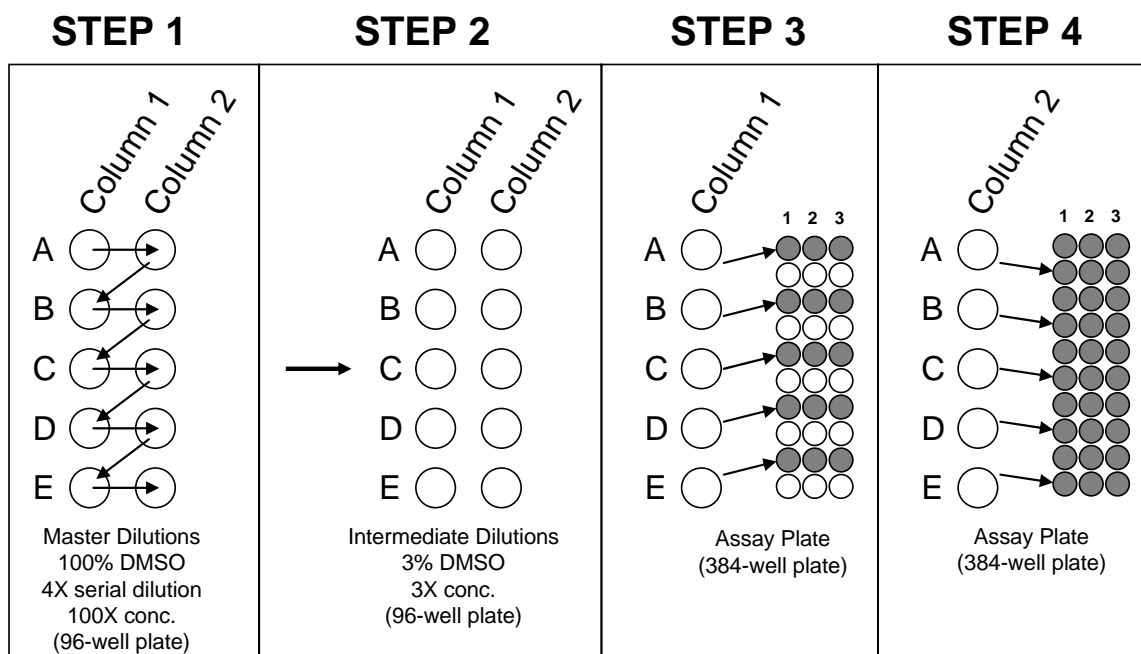

Figure 6. Compound serial dilution.
1. Prepare an intermediate dilution series of each test compound by 4X serial dilution in DMSO such that the top concentration is 1 mM (suggested starting point) (Figure 6, Step 1).
- f. Continue process as depicted in Step 1 of Figure 6.
- Dilute the “Master Dilution” series 33.3-fold into Kinase Buffer A. Remove 5 μL of each concentration of diluted compound, transfer to another 96-well plate, add 162 μL of Kinase Buffer A and mix (Figure 6, Step 2).
- Add 5 μL of each concentration of serially diluted compound to triplicate assay wells in a 384-well plate (columns 1-3) as depicted in Steps 2 and 3 of Figure 6.